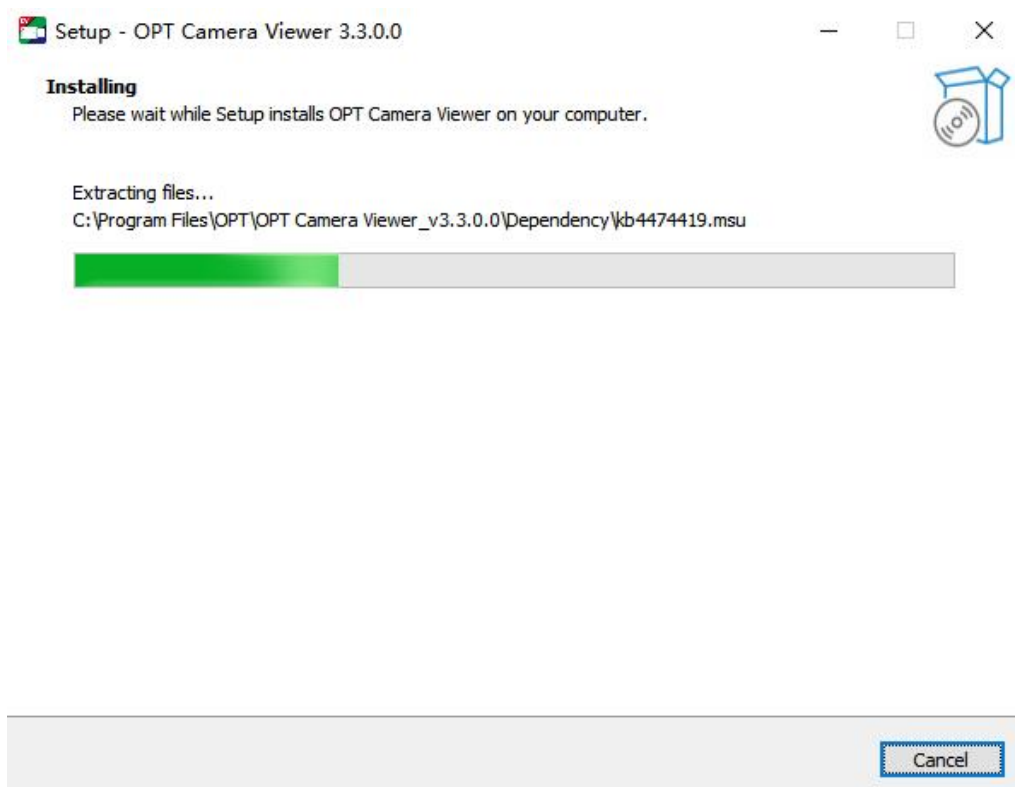

Figure 3-6 Program Installation Progress Window
7. Wait for the program installation progress, as shown in Figure 3-6.